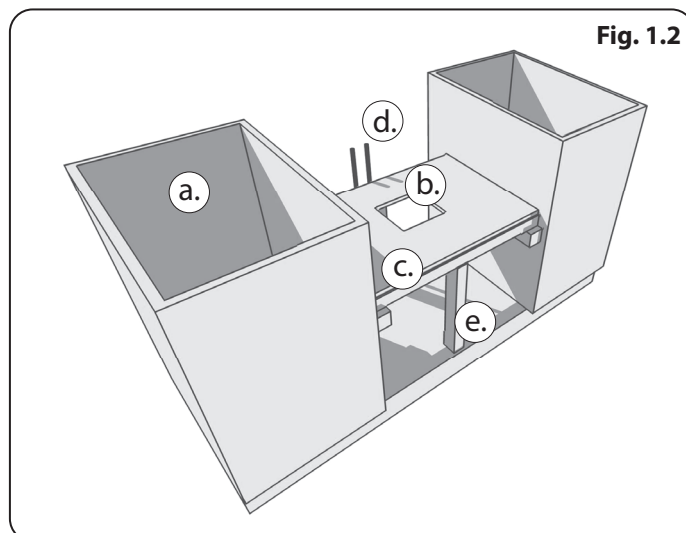

Fig. 1.2
8. All ceramic products should be supported under the reverse face with a substantial braced shelf similar (Fig. 1.2). The shelf should be designed to allow for small adjustments in height at each corner and so that it could be disassembled from the underside in the event that the sink is accidentally damaged.